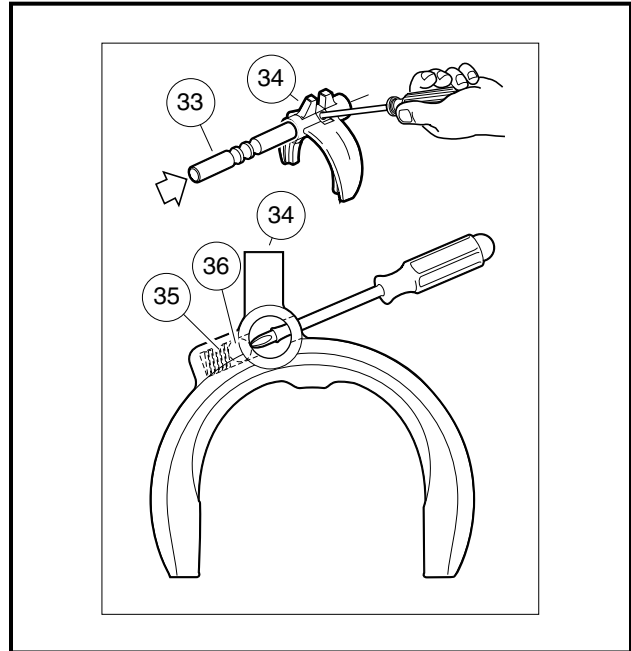

Figure 6-33 Insert Shift Rod Past Ball
- Use a no. 1 tip phillips screwdriver to press the ball and spring while inserting shift rod (33) into the shifter fork (34) (**Figure 6-33, Page 6-17**). Remove screwdriver when the shift rod is inserted far enough for it to depress the ball and spring, then continue to insert rod until the ball is positioned in the middle detent on the rod.